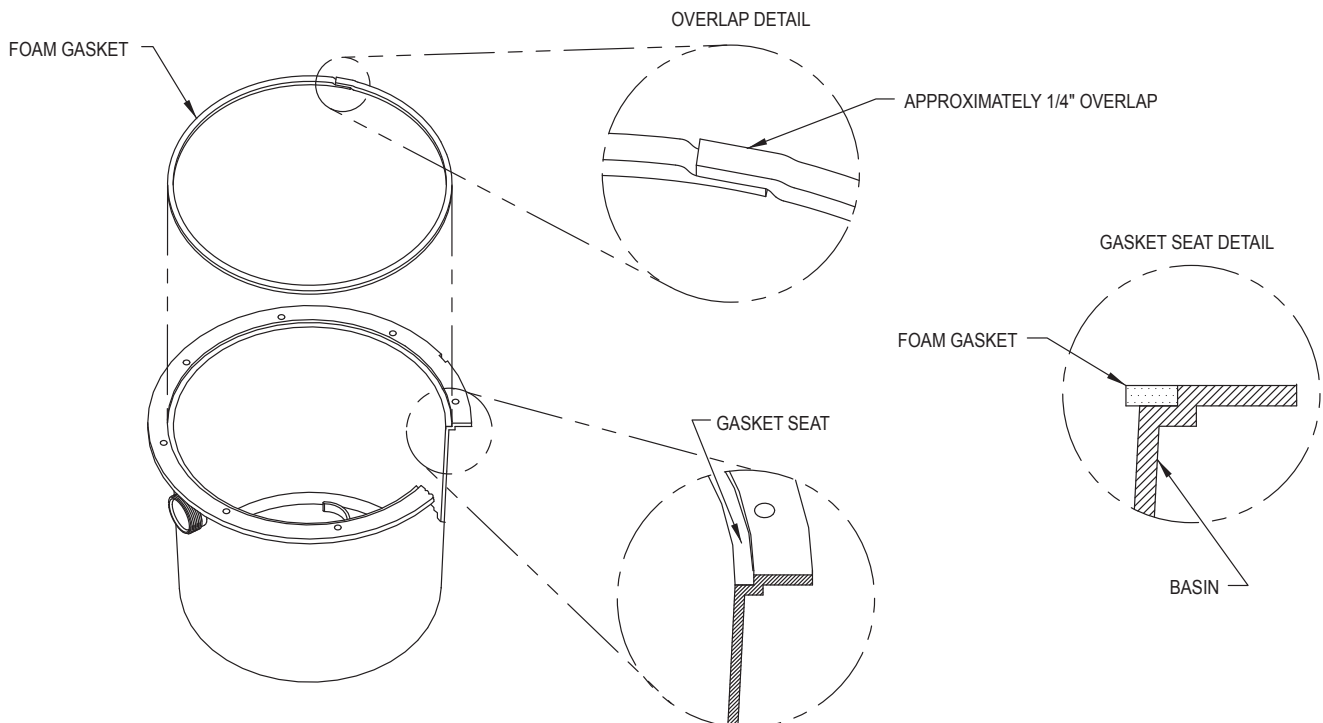

Figure 3.1
3.1) Install the foam gasket into the "gasket seat" at the top of the basin, refer to Figure 3.1 for details.